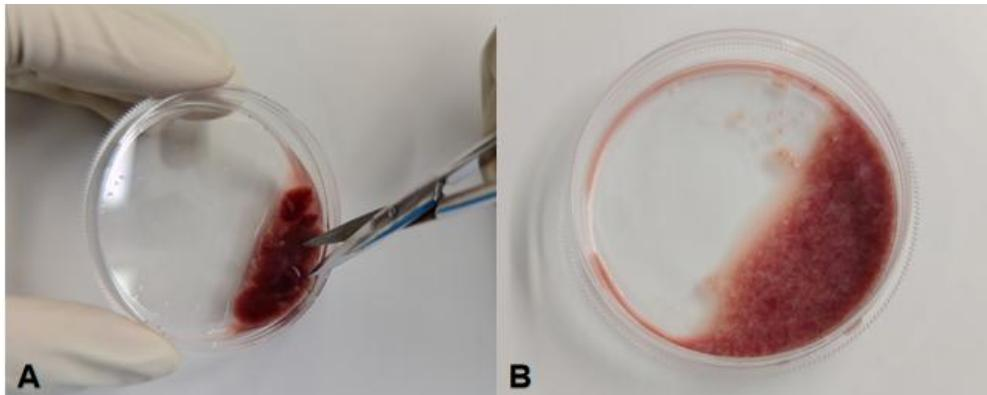

Figure 1. Treatment of liver tissue in vitro
- (1) Tissue Washing: Using a new set of ophthalmic scissors 3, curved forceps 1, bend forceps 1 to clamp the junction of the liver lobes and gently shake the liver tissue. At this time, blood stains flow out. discard the liquid in the dish and add new wash solution until the tissue is completely immersed. Rinse the tissue 2-3 times and use ophthalmic scissors 3 and curved forceps 1 to clean the blood stains, bile ducts, and blood vessels around the liver to obtain pure tissue. Transfer the tissue to a new glass culture dish, Add a little of **Specialized Washing Solution For Rat Kupffer cells** until it just covers the tissue.
- (2) Tissue Processing: Tilt the dish about 45° to allow the liver tissue to gather at the bottom of the dish(which can be gently scraped off with curved forceps 1). Quickly cut the tissue into 1 mm³ pieces using ophthalmic scissors 3, until the tissue is sugar like (as shown in Figure 1) and there are no large pieces of tissue. Use a Pasteur pipette or a pipette with a wide mouthed tip to transfer the tissue fluid and transfer it to a 50 mL centrifuge tube. Add 5 mL **Specialized Washing Solution For Rat Kupffer Cells** to clean the liver tissue culture dish and transfer it to the same centrifuge tube. Centrifuge at 300 g for 1 min, discard the supernatant, and retain the tissue precipitate.
- (3) Tissue Digestion: Add 20 mL of **Digestive Working Solution for Rat Kupffer Cells** to the 50 mL centrifuge tube tissue sediment, blow and mix well, tighten the bottle mouth, wrap it with a sealing film to ensure no leakage, tilt it to allow tissue fragments to fully contact the digestion solution at 4°C for 16 hours of digestion (digestion time should not exceed 16 hours, as excessive digestion will have a significant impact on cell activity).
- (4) After digestion, remove the centrifuge tube and transfer it to a 37°C water bath shaker at 150 rpm for 15 minutes of digestion..
- (5) In the ultra-clean workbench, place a 70 µm Cell filter and 100 µm Cell Filter on a new 50 mL centrifuge tube. Pre-wash the filter with1-2 mL Specialized Washing Solution For Rat Kupffer Cells.
- (6) Cell Filtration: Remove the centrifuge tube and open it in the ultra-clean workbench. Blow the tissue suspension with a 5 mL pipette tip at least 30 times. Add 5 mL of **Specialized Washing Solution For Rat Kupffer Cells** to dilute. Take the cell suspension at this time and filter it through a 100 µm cell filter and a 70 µm cell filter in sequence to collect the filtrate.